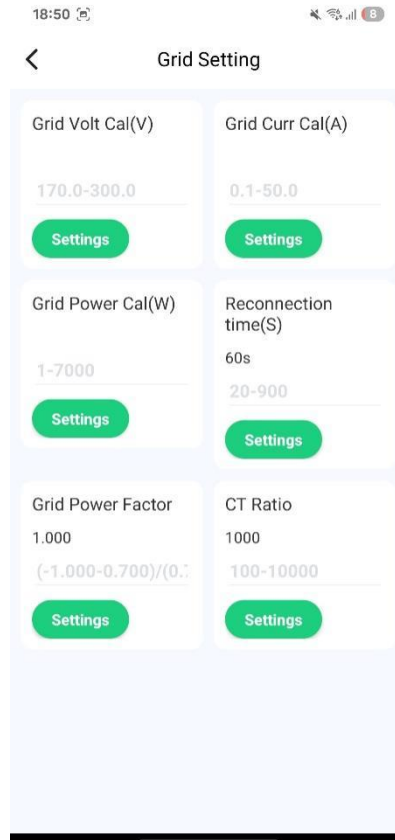

Fig. 4.20.3 Grid Settings
1.In grid settings, you can configure parameters such as grid voltage, grid current, grid power, reconnection time, grid power factor, CT ratio, and more, as shown in Fig. 4.20.3.